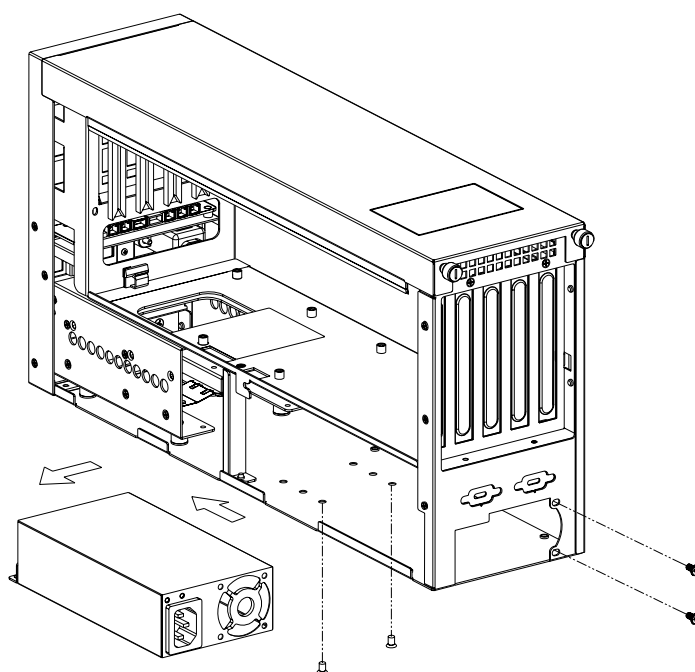

Figure 3.6 Replacing the single power supply
3. Loosen the screws of power supply bracket from the rear panel and on the bottom of IPC-6025 and then gently pull out the power supply (see Figure 3.6).